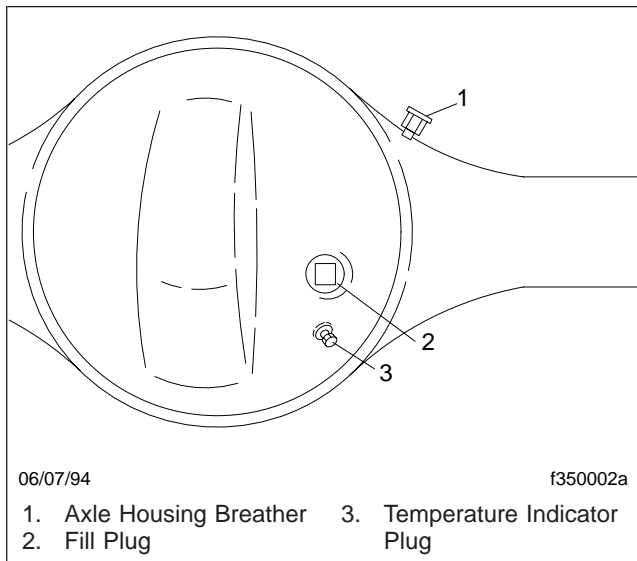

Fig. 1, Axle Housing
3. Clean the oil fill plug and area surrounding it, then remove the plug from the fill hole (Fig. 1) or from the standpipe (if so equipped) installed in the fill hole.